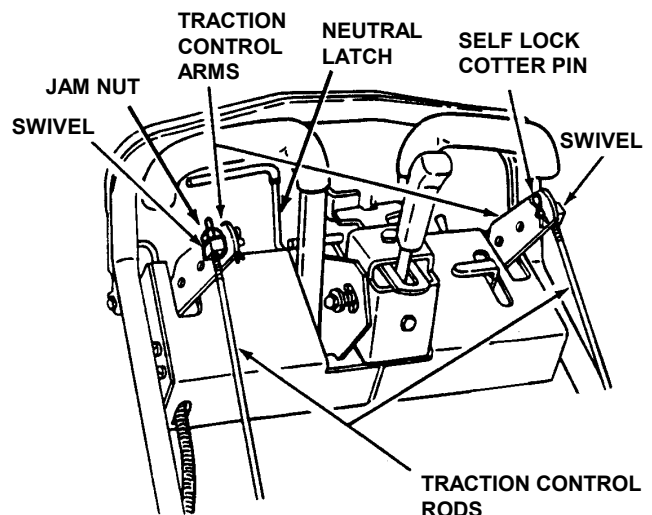

FIGURE 3.8
- STEP 2:** Place traction control levers in the Neutral position and engage Neutral Latch. See Figure 3.8.
**STEP 4:** Disconnect the swivel from the right and left traction control arms and loosen swivel jam nuts. Refer to Figure 3.8.